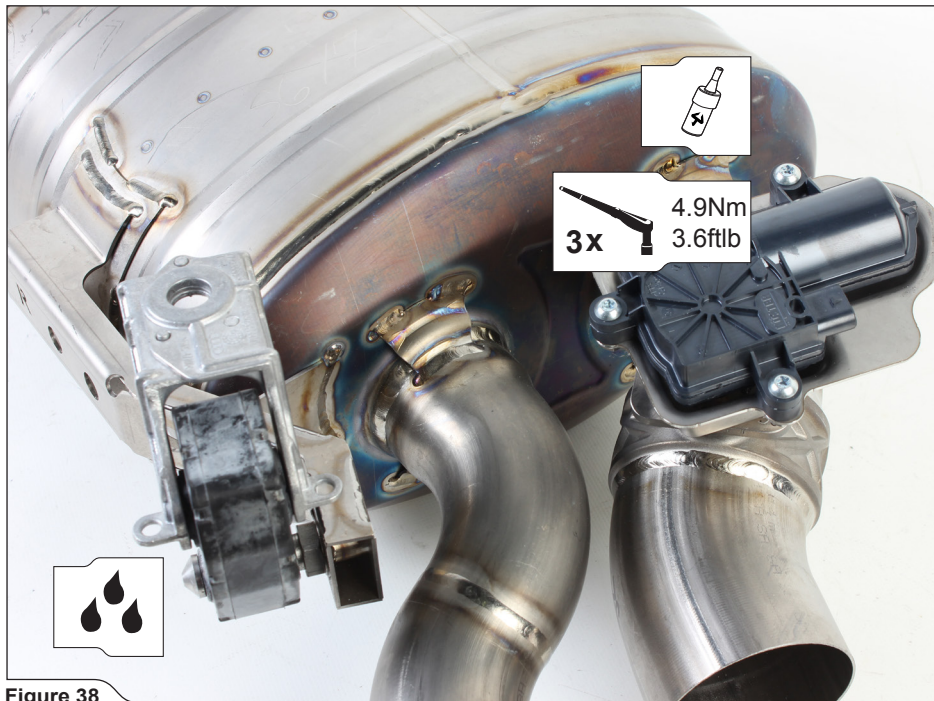

Figure 38
8. Install the stock exhaust valve actuators (using bolts and nuts from Akrapovič installation kit) and the stock muffler rubber brackets onto the Akrapovič mufflers, as shown (Figure 38, 39).